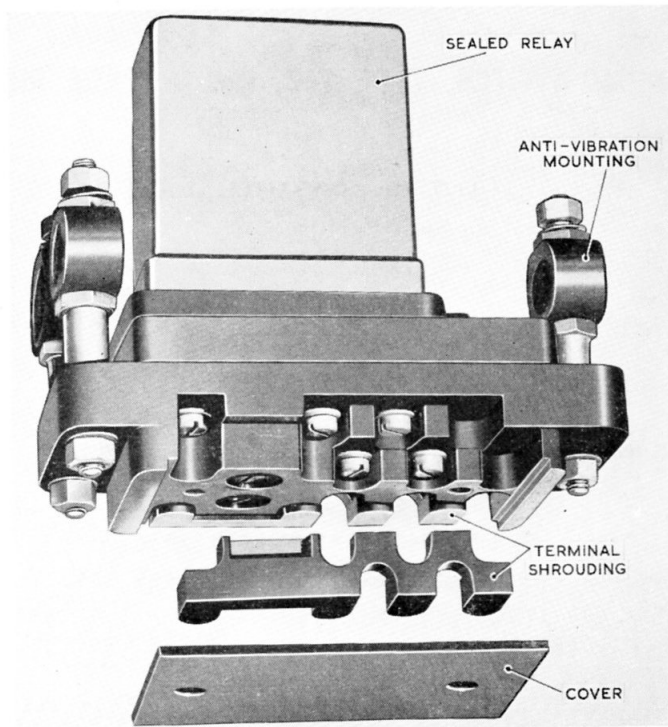

Fig. 1. Magnetic switch, Type 16B, No. 6
2. This switch (*fig. 1*) consists of a sealed relay, Type M1092 (Inter - Service Ref. Z530003) secured to a moulded Bakelite base plate having shrouded 6 B.A. terminals. The switch is designed for panel mounting, and is provided with three rubber anti-vibration mountings incorporating 4 B.A. fixing studs.